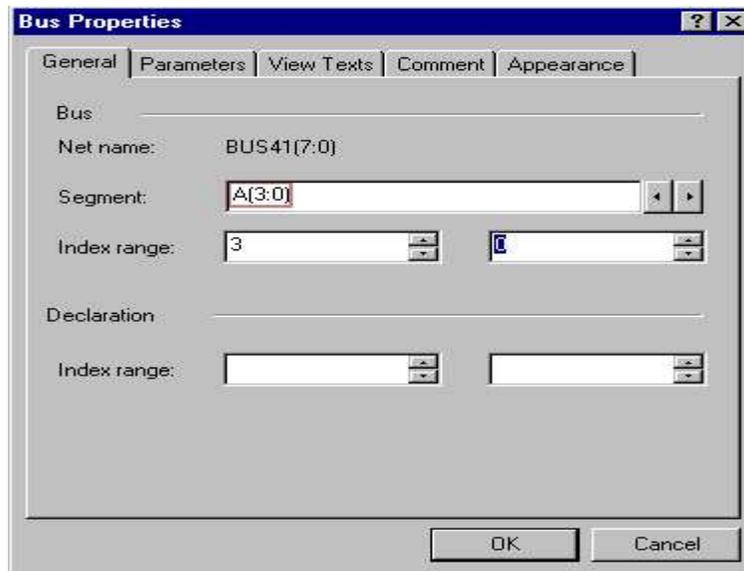

Figure 8
2. Type the name of the bus in the "Segment" field, and select the index range. By default, buses are 8-bits wide when drawn (see Figure 8 on the next page).